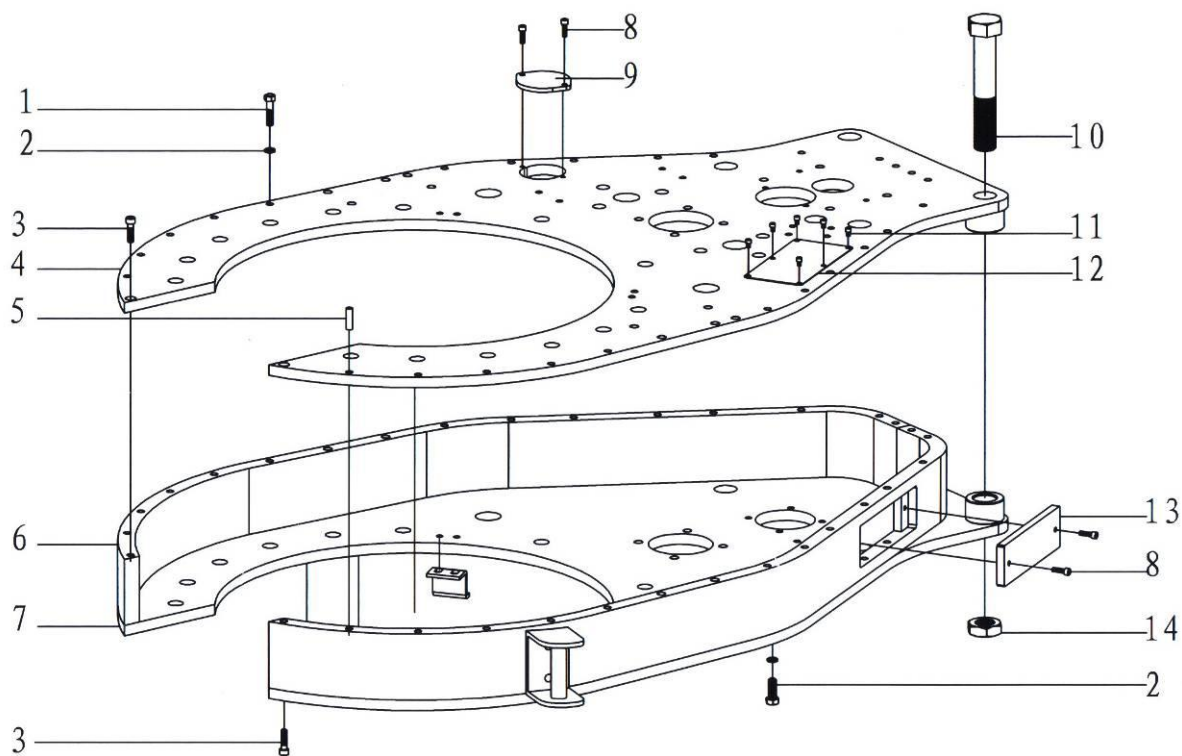

Fig. 5
7.1.2 Case body assembly(Fig.5, Table.4)